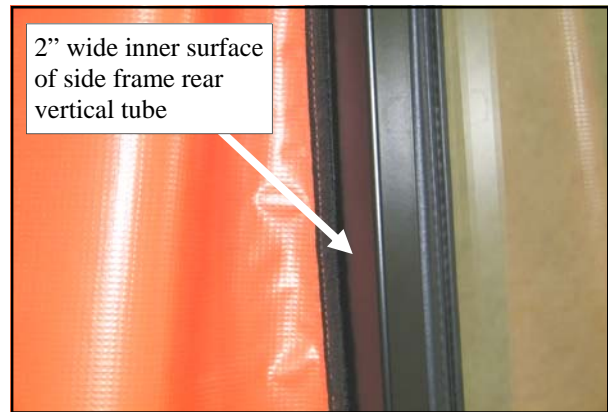

Fig. 10.2 (view from center of tractor)
10.2 Dry fit the sides of the rear curtain to the wide inner surface of the side frame rear vertical tubing as shown in fig. 10.2. Install the supplied 1" wide hook velcro to a clean, dry surface at room temperature for best adhesion. Attach the curtain to the newly installed velcro.